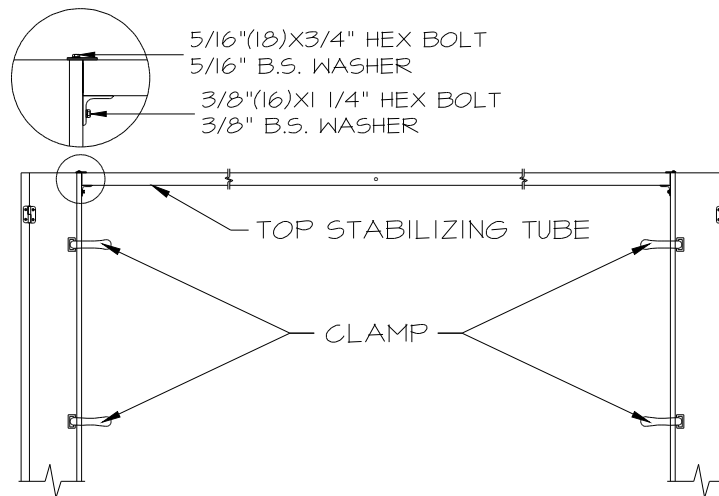

FIG. 5A
- **Clamp one Upright flush to edge** of a door jamb with mounting holes against wall and anchor plates at the bottom (Figure 5a).